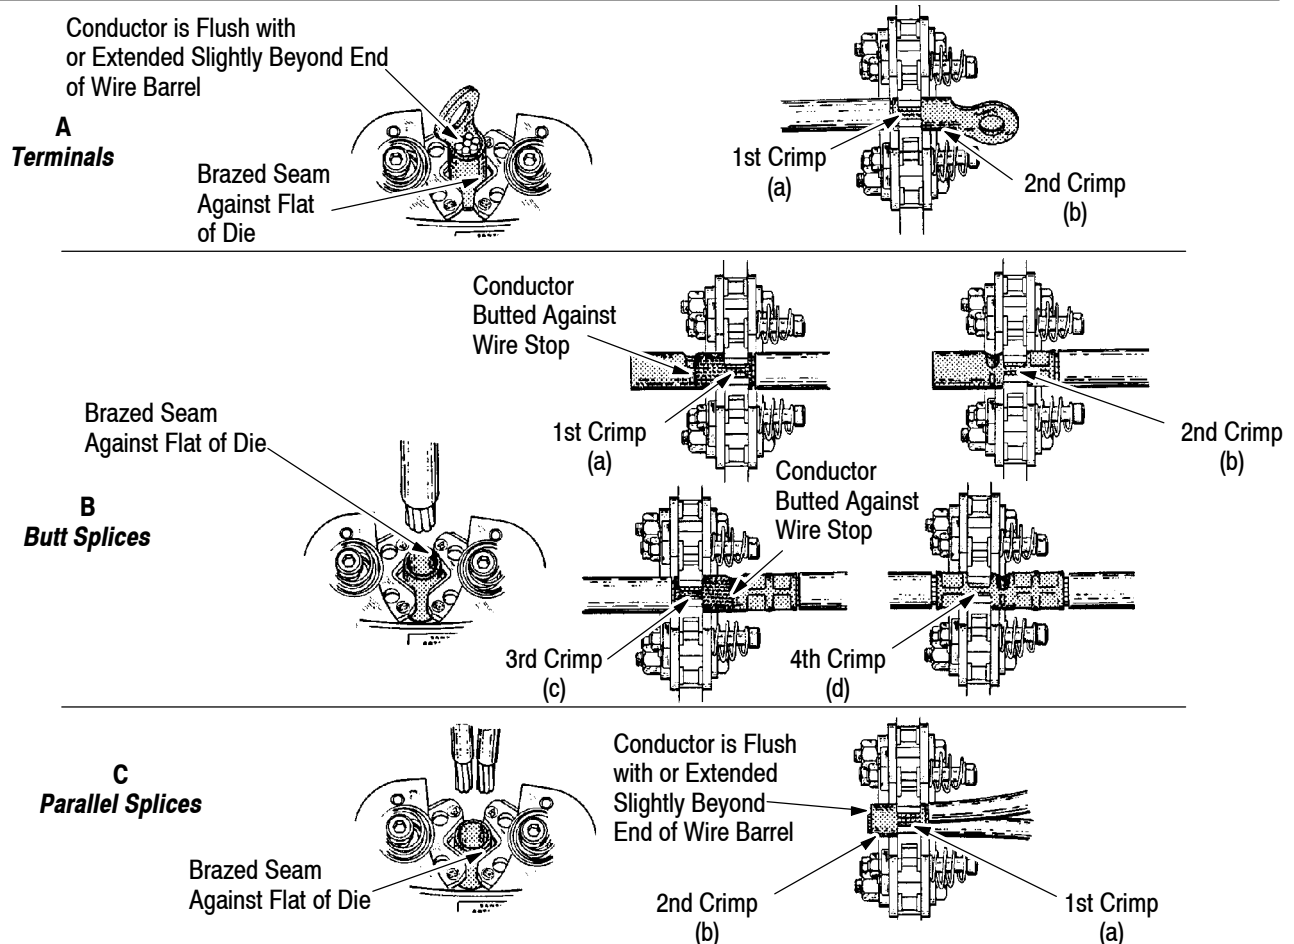

Figure 4
3.4. Performing a Dual Crimp on SOLISTRAND Terminals with Wire Size 2 and 1/0 (Figure 4)
For best results, position the brazed seam of the terminal against one of the "flats" of the dies, as shown in Figure 4. Make sure that the crimps do not overlap or go off either end of the wire barrel. Make sure that the wire size being used, the wire size stamped on the terminal, and the wire size embossed on the dies all correspond.
1. Position the end of the terminal or splice wire barrel in the dies as shown in Figure 4.
3.5. Performing a Dual Crimp on SOLISTRAND Butt Splices with Wire Size 2 and 1/0 (Figure 4)
5. Move the splice into position for the second crimp, as shown in Figure 4.
B. Third and Fourth Crimps (Figure 4)
3.6. Performing a Dual Crimp on SOLISTRAND Parallel Splices with Wire Size 2 and 1/0 (Figure 4)